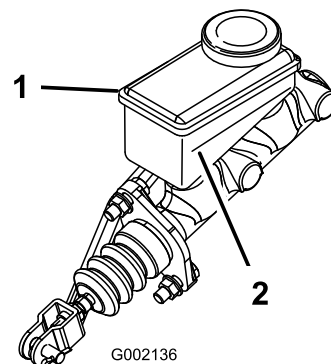

Figure 32
2. Look at the side of the reservoir. The level should be above the Minimum line (Figure 32). If the fluid level is low, clean the area around the cap, remove the cap, and fill the reservoir to above the Minimum line. Do not overfill.